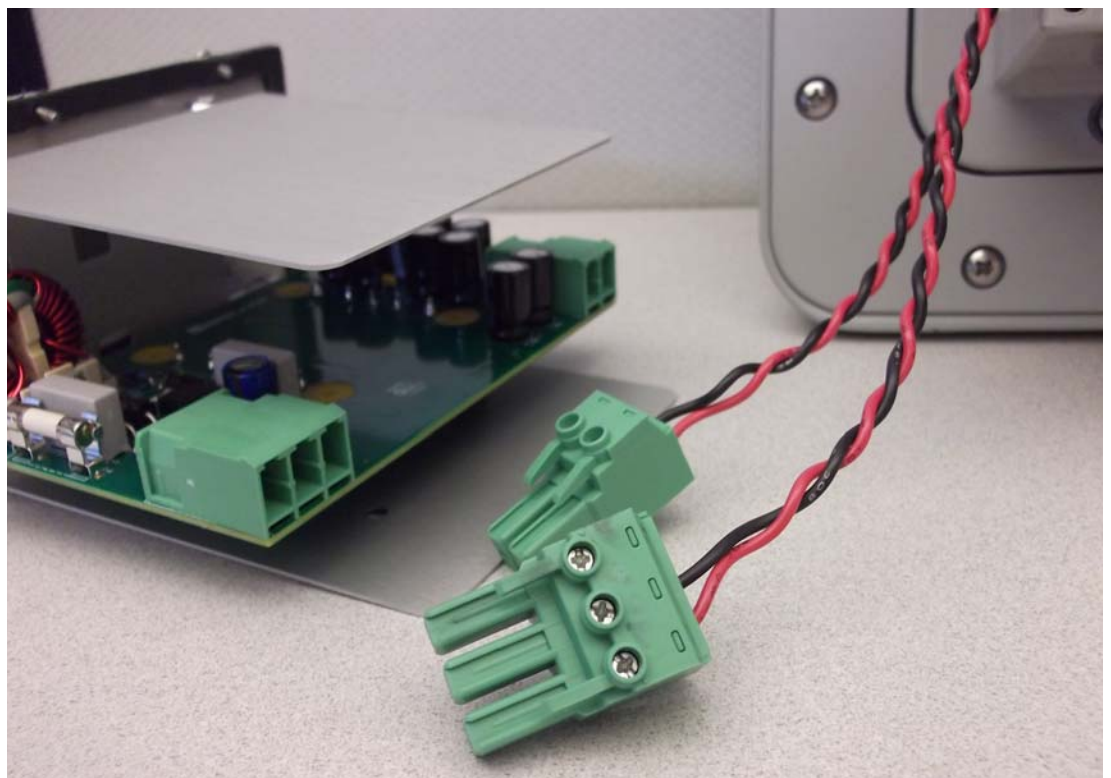

Figure 7.10 Power Supply Wiring Connections
4. Disconnect the wiring on the input and output side of the power supply. Refer to Figure 7.10.
6. Attach the new power supply with mounting bracket assembly to the back side of the cover plate using the four (4) screws.
7. Connect the wiring to the primary and secondary sides of the power supply. Refer to Figure 7.10.